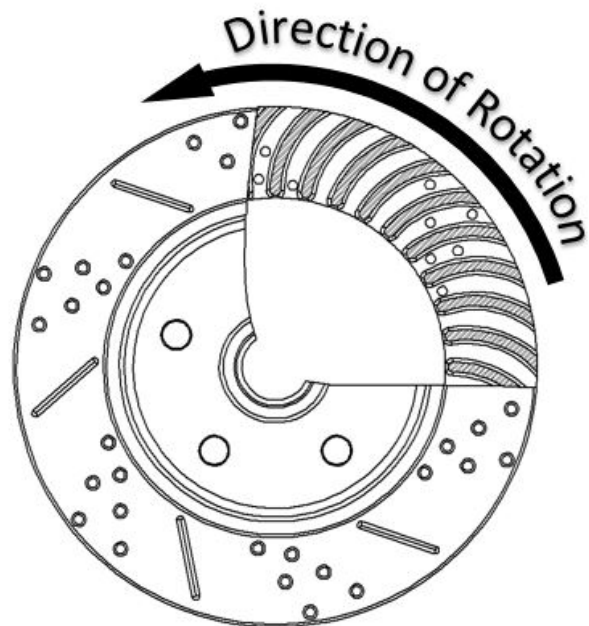
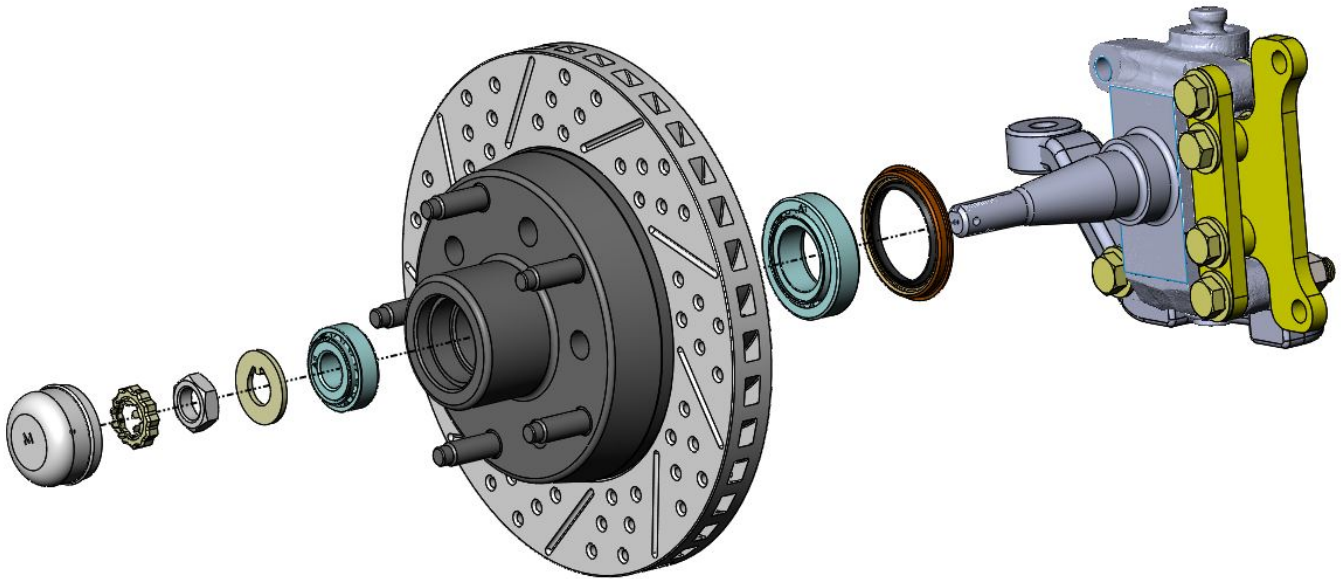

Figure 4 – Direction of Rotor Rotation
Figure 5 – Rotor Installation (Passenger Side Shown)
6. With the brackets assembled on the spindle, slide the rotor onto the spindle. The new rotors come with the Timken bearings pre-installed and packed with Red Line Synthetic wheel bearing grease. **NOTE:** It is not necessary to add more grease. Apply a small amount of grease to the hub sealing surface and install the rotor assembly. Using the new castle nut along with the nut retainer, tighten the nut to 5-10 ft/lbs. Loosen the nut and tighten the nut again using the same 5-10 ft/lbs. Do this a couple of times spinning the rotor to fully seat the wheel bearings onto the spindle. Loosen the nut a final time and re-tighten to remove all play. Tighten approximately an additional 1/16th of a turn to give the appropriate pre-load and line up the cotter pin hole. Install the cotter pin and dust cap. See Figure 4 below for correct placement of left and right rotors and Figure 5 on the next page for additional information on the rotor installation.